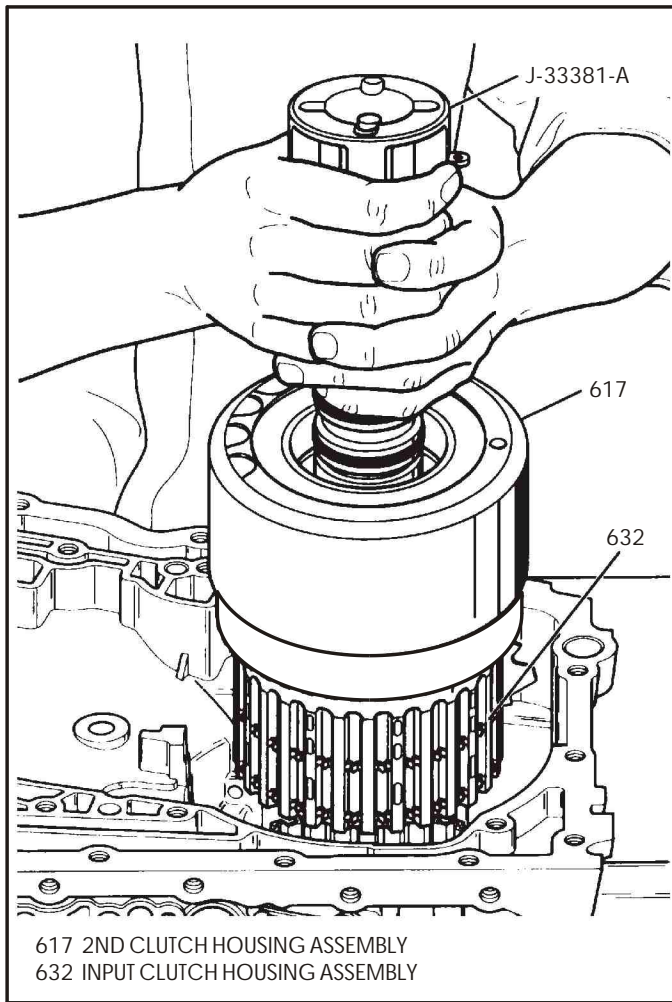

Figure 70
20. Install tool J-33381-A into the input housings shaft and tighten the threaded rod until the rod is finger tight (See Figure 70).
21. Lift straight up with the tool J-33381-A, shown in Figure 70, to remove the input housing, 2nd clutch housing and both sprag assemblies.